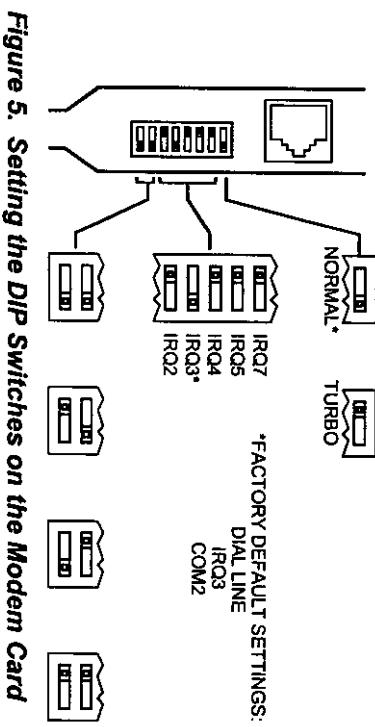

Figure 5. Setting the DIP Switches on the Modem Card
4. Since other devices in your computer may use COM ports, you need to know exactly which ports and IRQs are in use to avoid a conflict. For example, you may have a serial mouse or a serial port printer connected to serial ports. If you set up the modem card for a COM port and IRQ that are already in use, the modem will not work. If you choose the wrong COM port, no problem, you just have to select different DIP switch setting on the modem (see Figure 5).
6. If you need to change the switch position, see Figure 5.